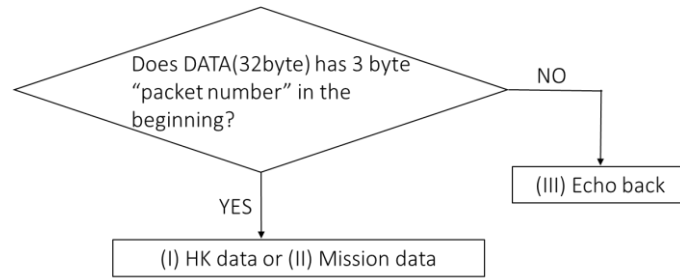

Figure 1 Method to distinguish data format
Figure 1 shows how (I) HK data, (II) Mission data, and (III) echo back, can be distinguished from each other.